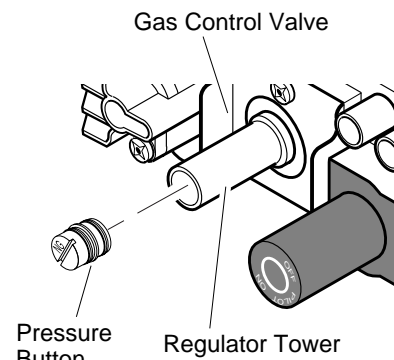

Figure 16 - Removing Pressure Button
2. Remove the pressure button from the regulator tower (see Figure 16).